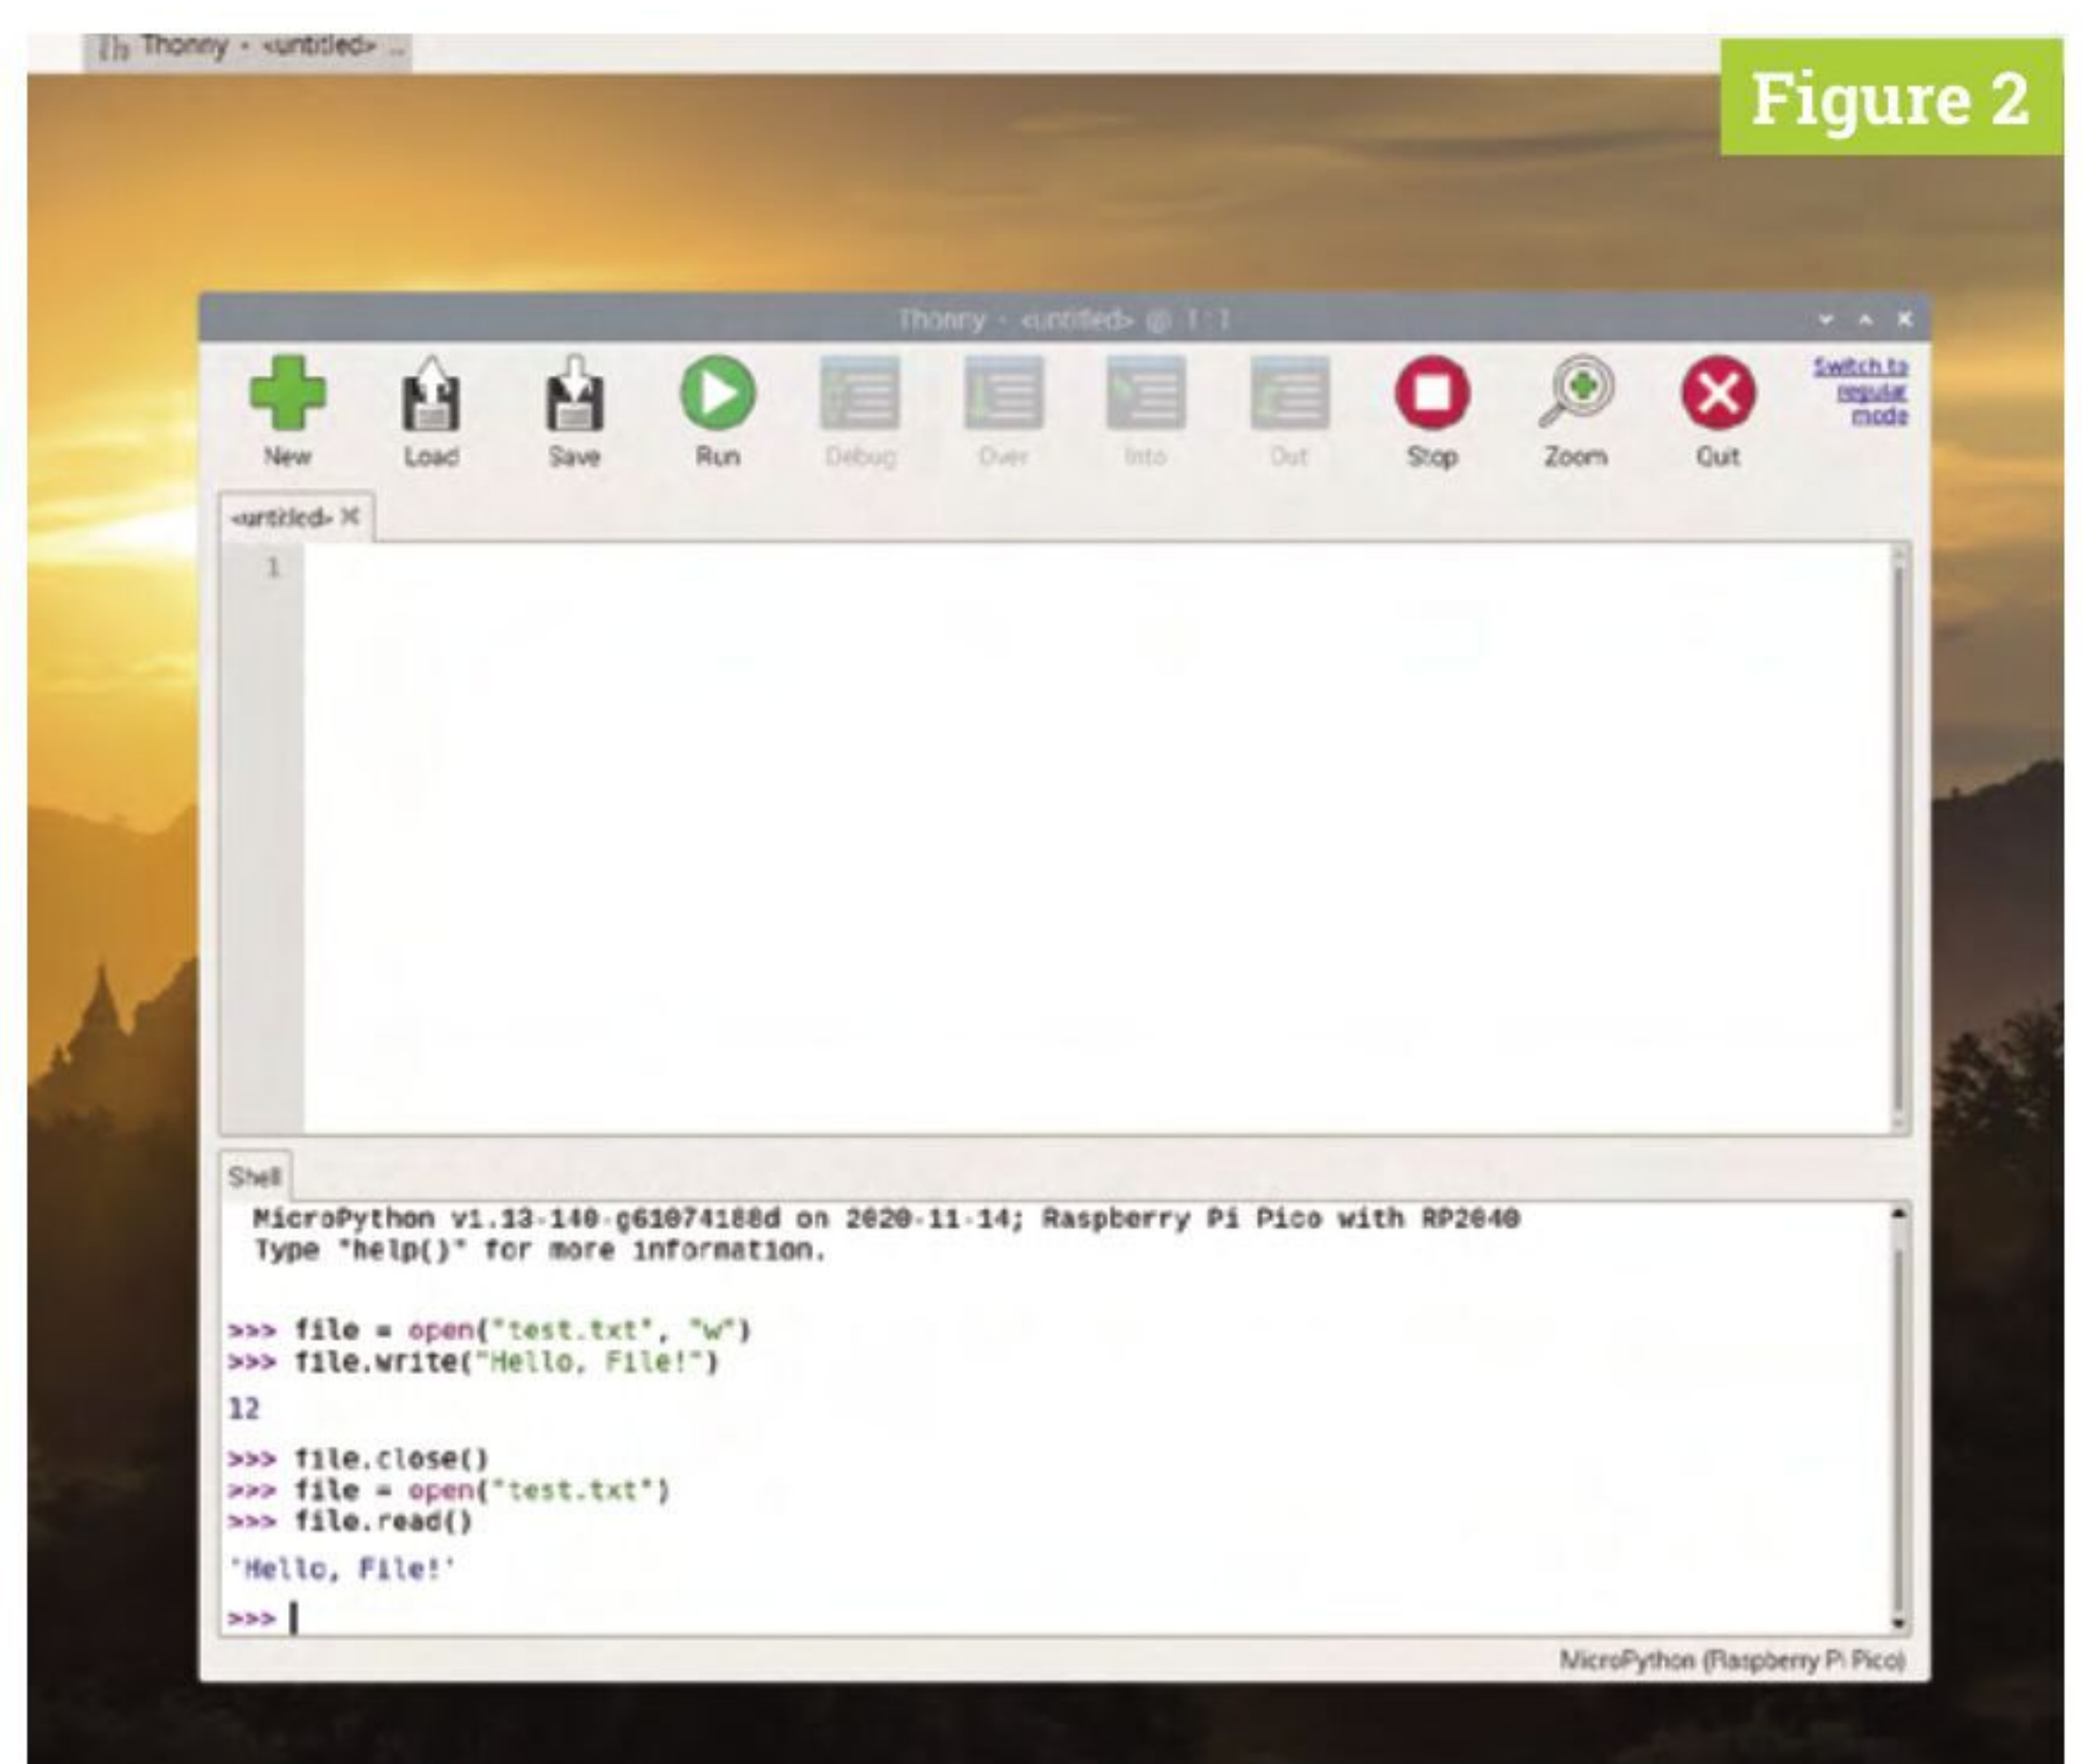

Figure 2
You'll see the message you wrote to the file print to the Shell area (**Figure 2**). Congratulations: you can read and write files on your Pico's file system!
- ▼ **Figure 2** Printing the stored message to the Shell area